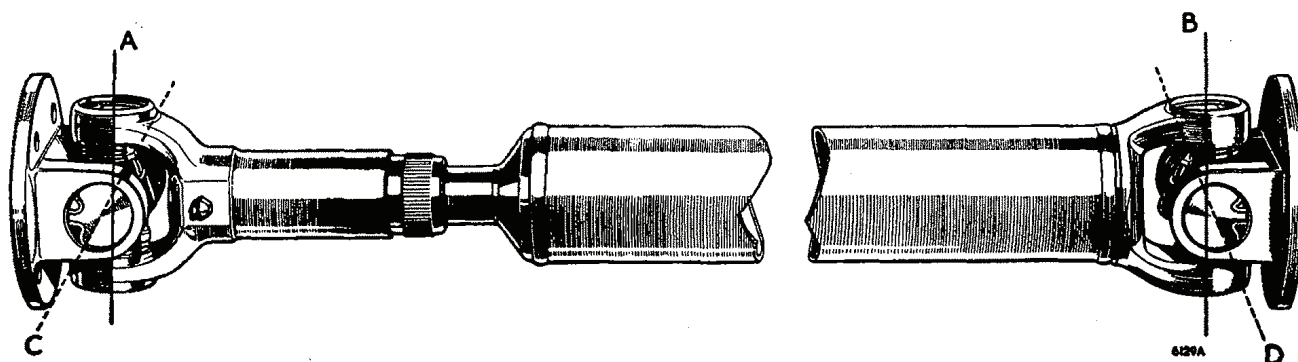

Fig. G.5
(1) In order to remove the propeller shaft it is necessary to remove the four nuts and bolts securing the front universal joint flange to the gearbox flange, as well as those securing the rear flange to the rear axle flange.
- (2) Check the sliding splines for wear by attempting to turn the splined sleeve yoke in relation to the splined shaft. If excessive circumferential movement is present a reconditioned propeller shaft assembly will be required.
- (3) When fitting new universal joints it will be found helpful to separate the two parts of the propeller shaft at the sliding joint.
- (4) Before refitting the splined sleeve yoke to the shaft push the threaded dust cover, the metal washer, and the felt washer over the splines onto the splined shaft. When assembling the joint ensure that the trunnions of the front and rear universal joints are in line (see Fig. G.5). This can be checked by observing that the arrows marked on the splined sleeve yoke and the splined shaft are in line.
- (5) Fit the propeller shaft to the car with the sliding joint at the gearbox end.